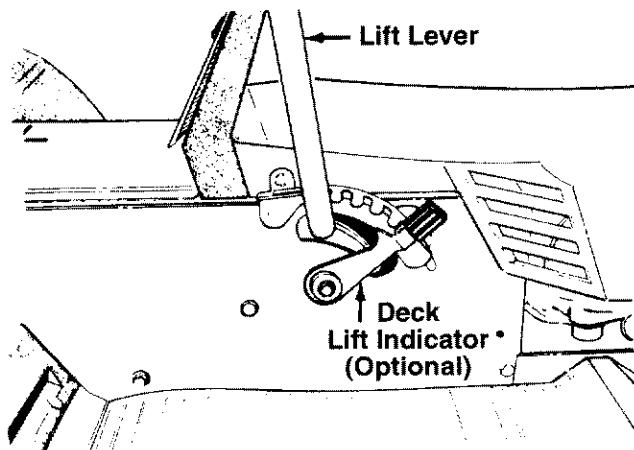

FIGURE 9.
**NOTE:** The lift lever **must** be in the BLADES OFF position when starting the engine, when shifting into reverse and if the operator leaves the seat. See figure 9.
If so equipped, the deck lift indicator marks the position being used for the lift lever. Select the lift lever position desired, press the indicator lever outward, move it to the position immediately below the lift lever and release the indicator lever. See figure 9.
2. Place the lift lever in the BLADES OFF position. See figure 9.